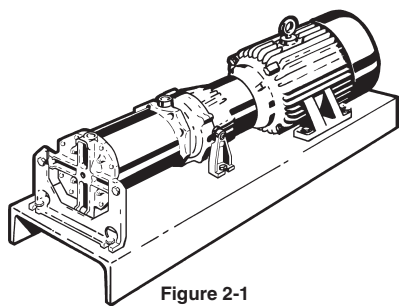

Figure 2-1
**2C Leveling (Flexible Coupled Pumps Only, Refer to Figure 2-1)**